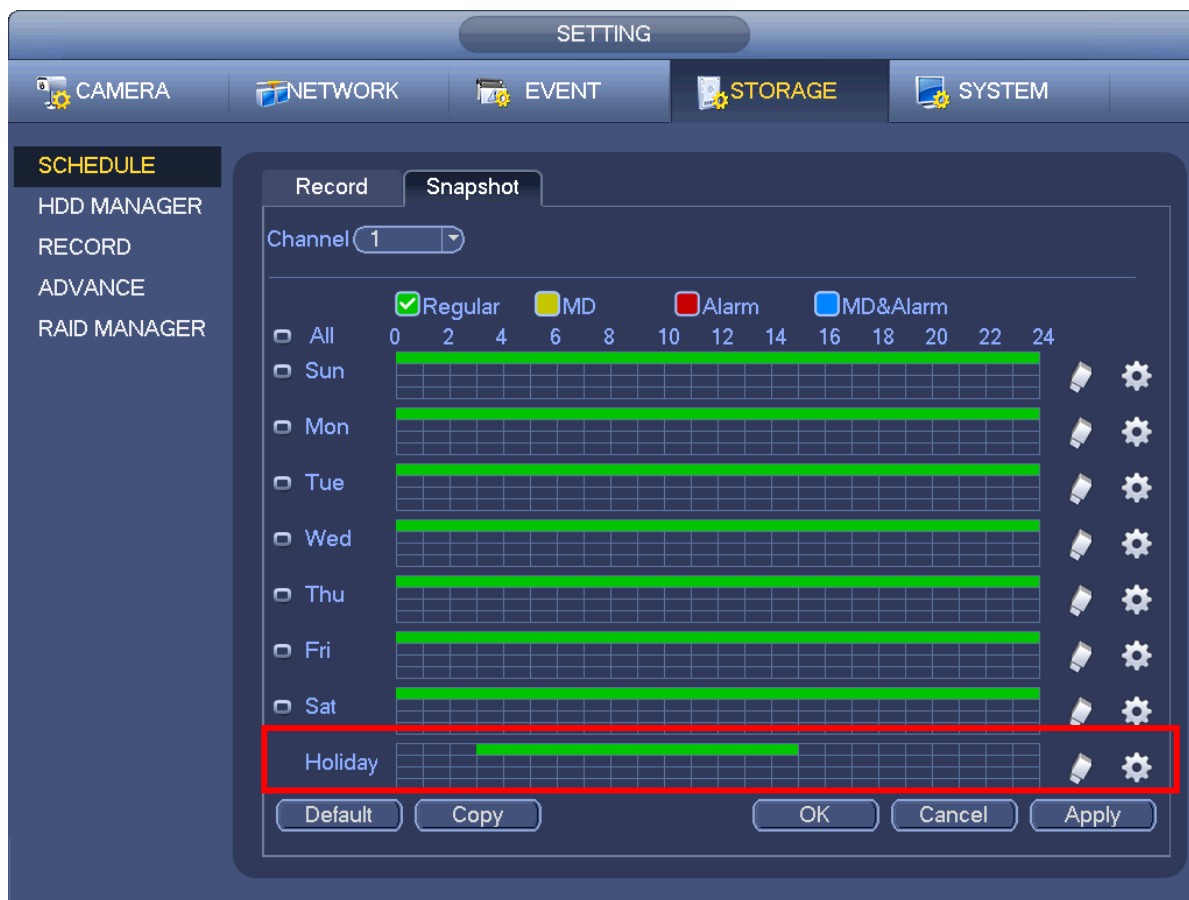

Figure 4-70
- d) From Main menu->setting->Storage->schedule, you can go to schedule interface. See Figure 4-70. Now you can set period and record type of holiday time. Please refer to chapter 4.8.2.1 for detailed setup information.
From Main menu->Setting->Storage->Schedule, you can go to schedule interface. See Figure 4-70. Click Holiday item to set snapshot period.